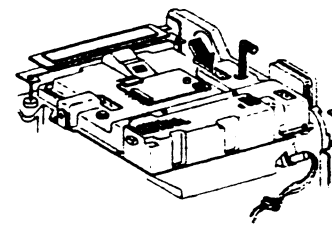

Figure 2. Adjusting the Scan Detector
5. ADJUST THE SCAN DETECTOR UNTIL METER READS GREATER THAN 4 VDC. THEN CONTINUE TO TURN SCREW 1/2 TURN (FIGURE 2).